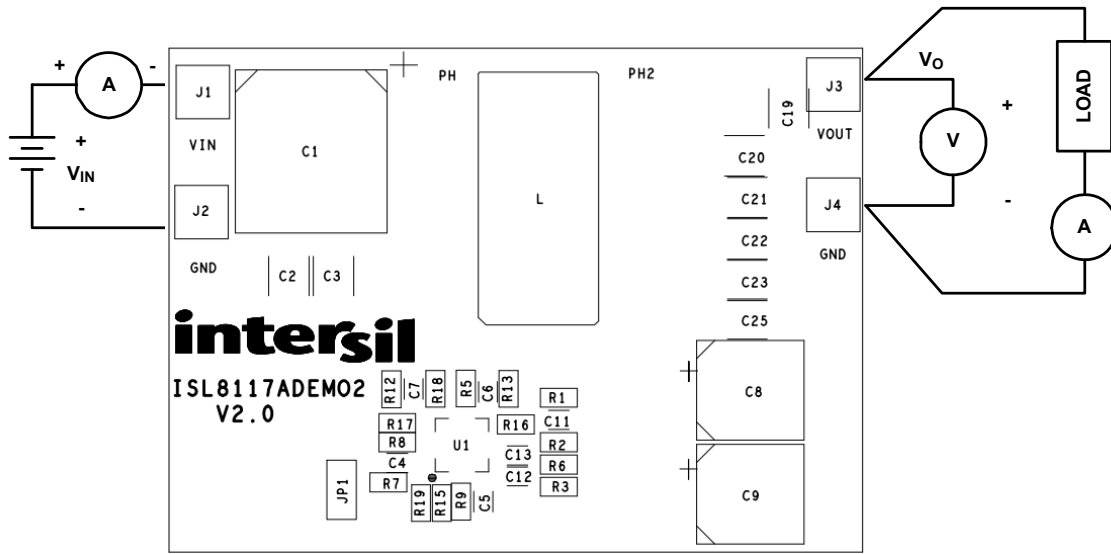

FIGURE 3. PROPER TEST SETUP
1. Ensure that the circuit is correctly connected to the supply and electronic loads prior to applying any power. Refer to Figure 3 on page 3 for proper setup.
As shown in Figure 3, 6.5V to 42V  $V_{IN}$  is supplied to J1 (+) and J2 (-). The regulated 12V output on J3 (+) and J4 (-) can supply up to 3A to the load.